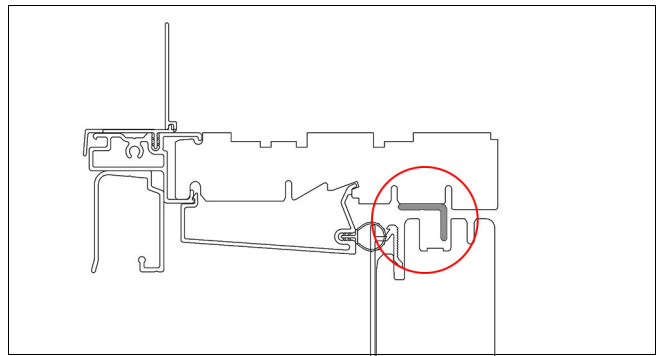

Figure 40
4. While holding the operator panel in place (tipped to the interior) insert the guide track in the groove in the top of the panel as shown. See Figure 39 and Figure 40.